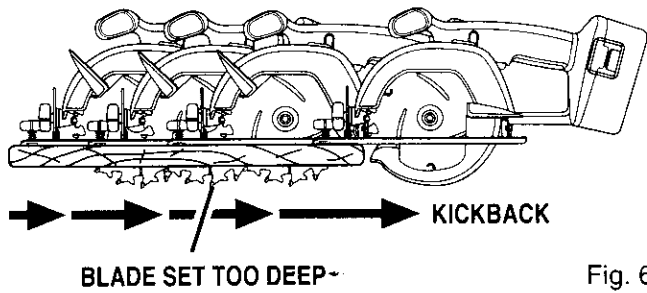

Fig. 6
See Figure 6.
- Incorrect blade depth setting. See Figure 6.